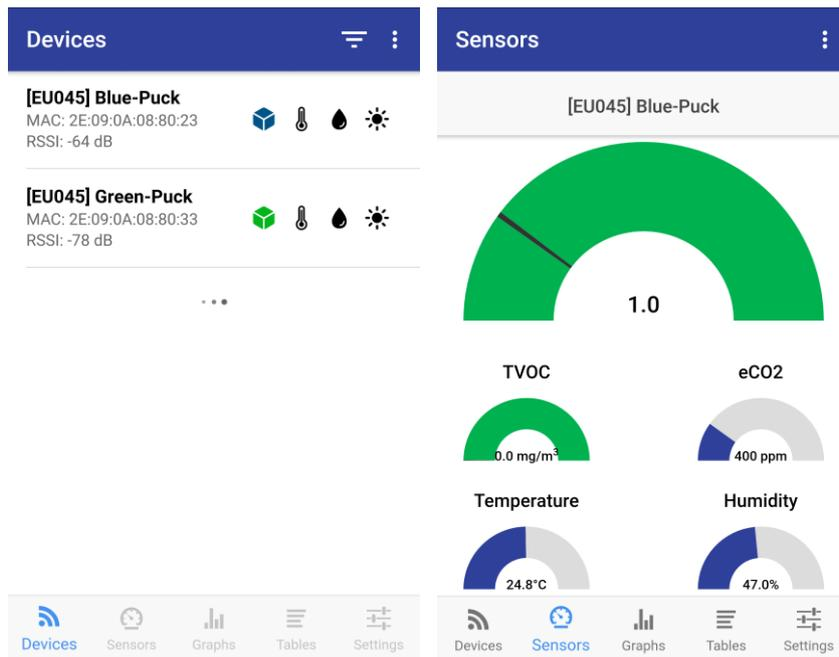

Figure 3: Device and Sensors Tabs of the APP.
10. Check the EU045 solution kit sensor data as shown in Figure 3